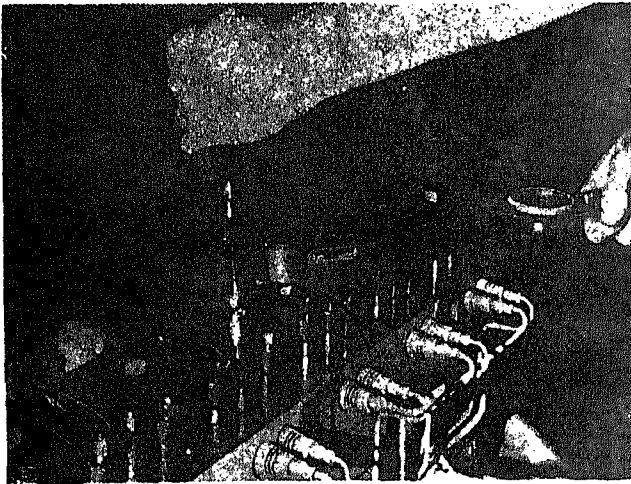

Fig. 14-1-84. Torquing injector lever locknut
8. Tighten locknut (with screw in place) with torque wrench and screwdriver to 70/80 ft. lbs. [9.6810/11.0740 kg m], Fig. 14-1-84.